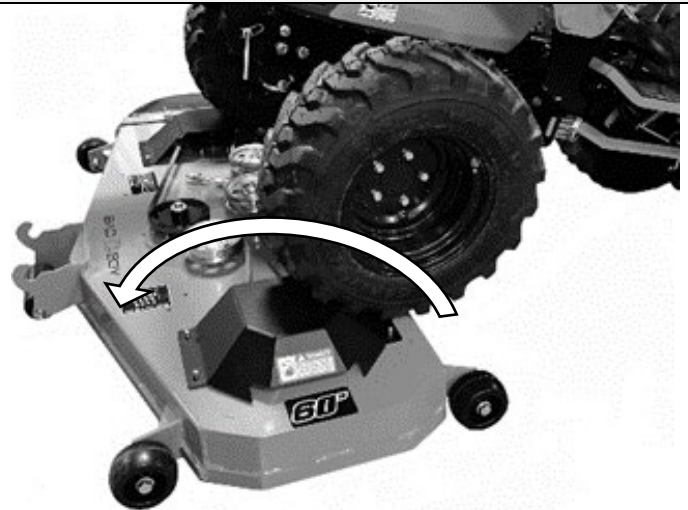

Figure 5C
5. Carefully drive the tractor over the deck as indicate in (Figure 5C). 2x4's can be used as step-ups to get the front wheels on to the mower deck surface. Keep the front wheels on the pulley covers while driving over the deck.